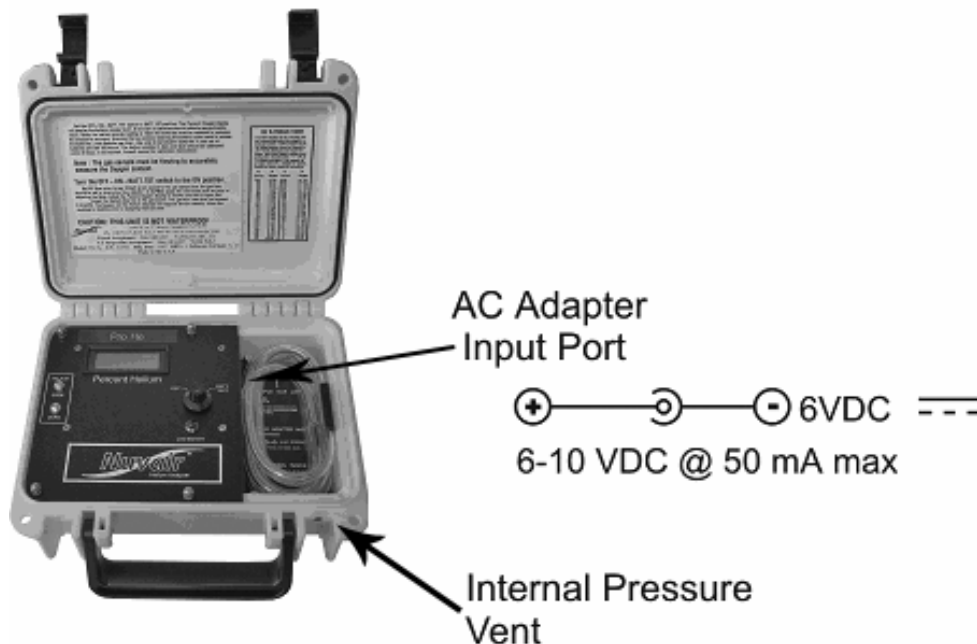

Figure 2-3: Power Adapter Port (Portable Model)
VDC power adapters, P/N A558 (US) or A555 (CE). When using the adapter, insert the jack into the port on the side of the front panel near the ON/OFF/ BATT TEST switch as shown in Figure 2-3. This figure also shows the internal pressure vent port which allows the instrument to vent and return to atmospheric pressure before the lid is opened.